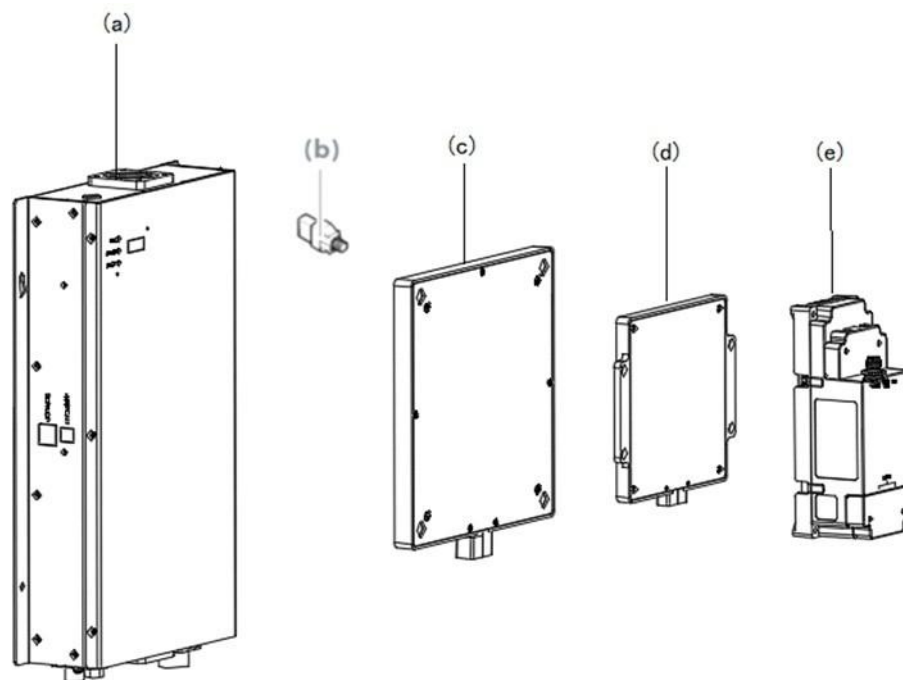

Fig 8– Range of delivery product
- They should not stay within the marked zone shown in Figure 8 during charging process.